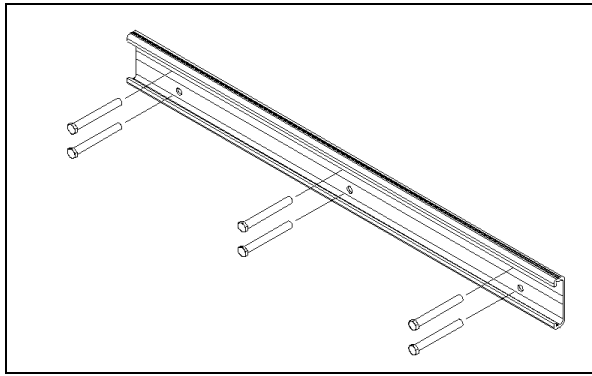

Figure 11
2) Install the wall plate on the wall. The wall plate must be installed on a concrete wall with six (6) 3/8 in concrete anchors or on three (3) 2 x 3 (minimum size) wooded studs with two (2) 3/8" dia. (M10) and 4 in long lag bolts on each stud (see Figure 11).